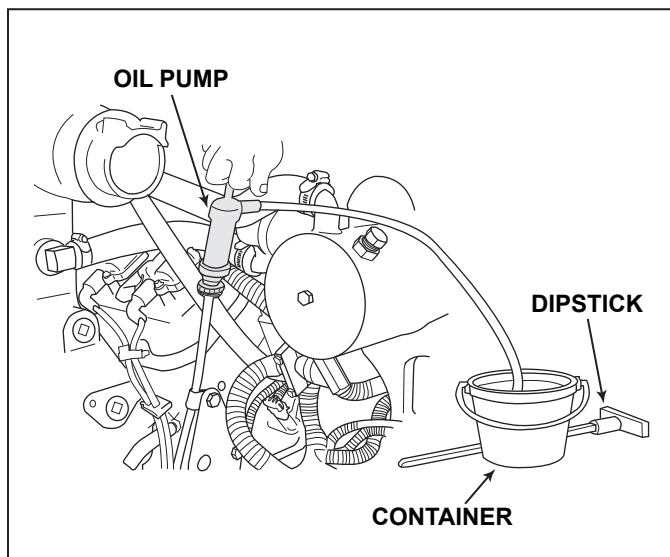

Figure 10-17 Engine Oil Removal
1. With the engine at normal operating temperature, remove the dipstick and install a crankcase oil pump onto the dipstick tube (Figure 10-17). Insert the discharge hose into a suitable container. Pump the oil from the engine until the crankcase is empty. Remove the oil pump from the dipstick tube.